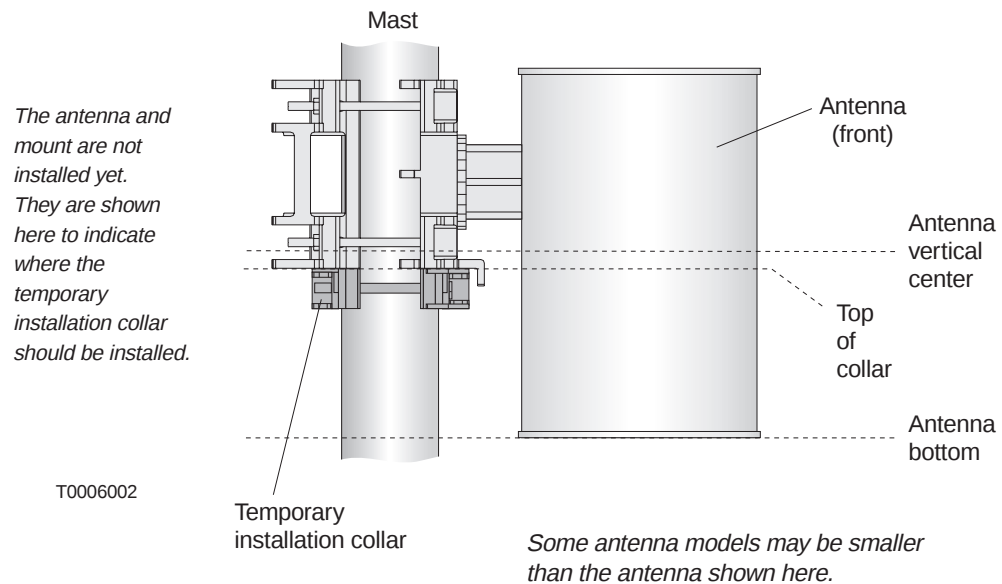

Figure 4-7 Collar height relative to desired antenna height
- b. Refer to figure 4-7 for the collar position relative to the installed antenna position.
As shown in figure 4-7, when the antenna is installed (later), the top of the collar is below the antenna center and above the bottom of the antenna.